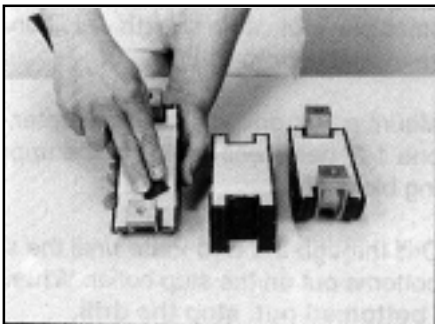

FIGURE 10 – SCUFFING CABLE OPENINGS
- 6.01** Remove sharp edges on plastic and foam in area of opening with emery cloth (provided). (Figure 10)